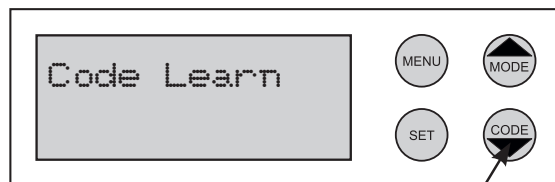

Fig. 13
- 1 Press the **CODE** button for 2 seconds the display will show Code Learn (Fig. 13).